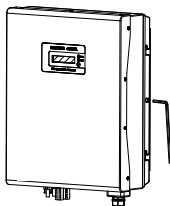

Fig.5 Fix safety-lock screws
Step3: Fix safety-lock screws at upper-left side and upper-right side as illustrated in Fig.5 with the attached socket head wrench.